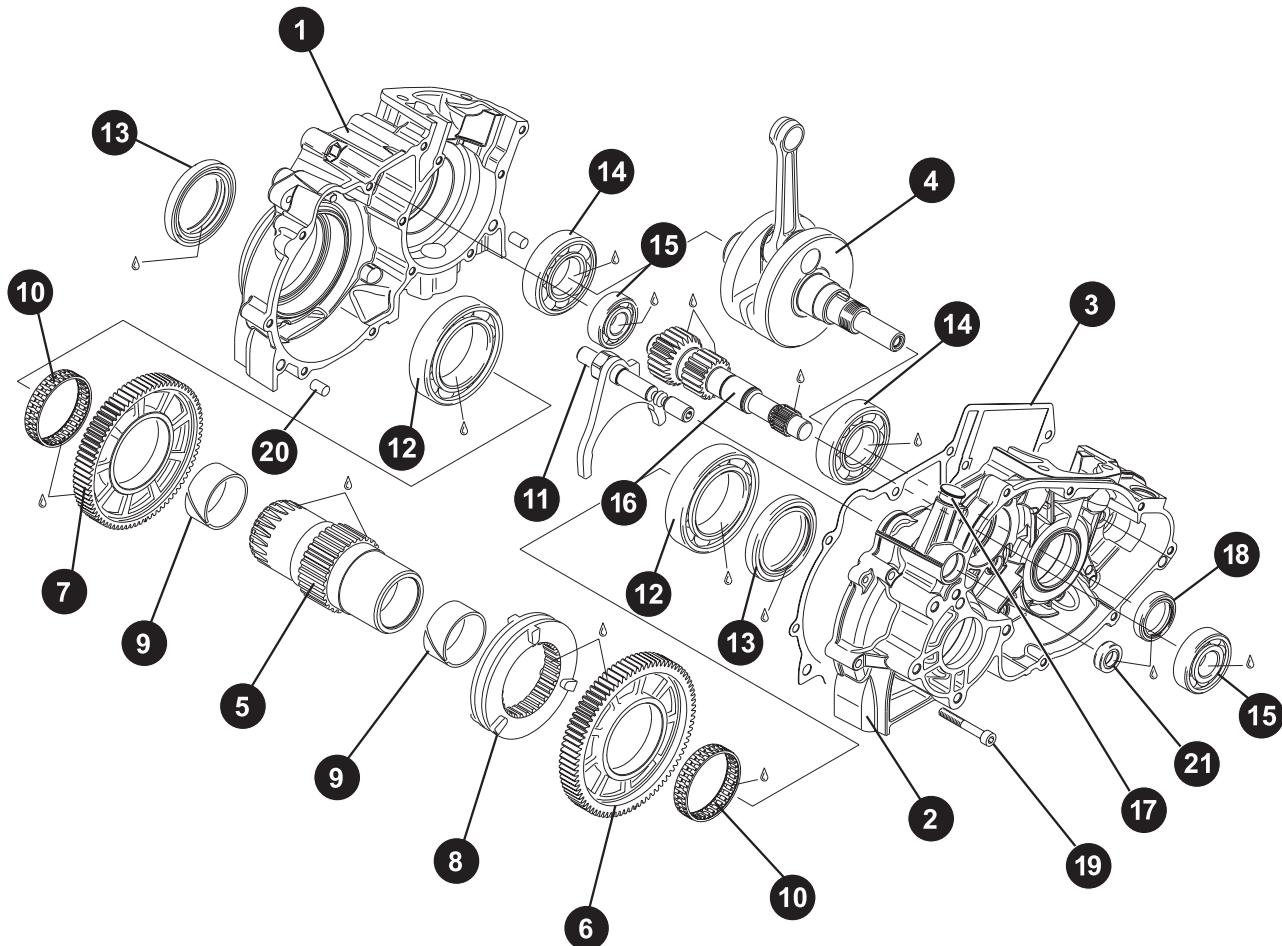

Fig. 30
**◆ Note:** The item numbers used in the following section relate to Fig. 30.